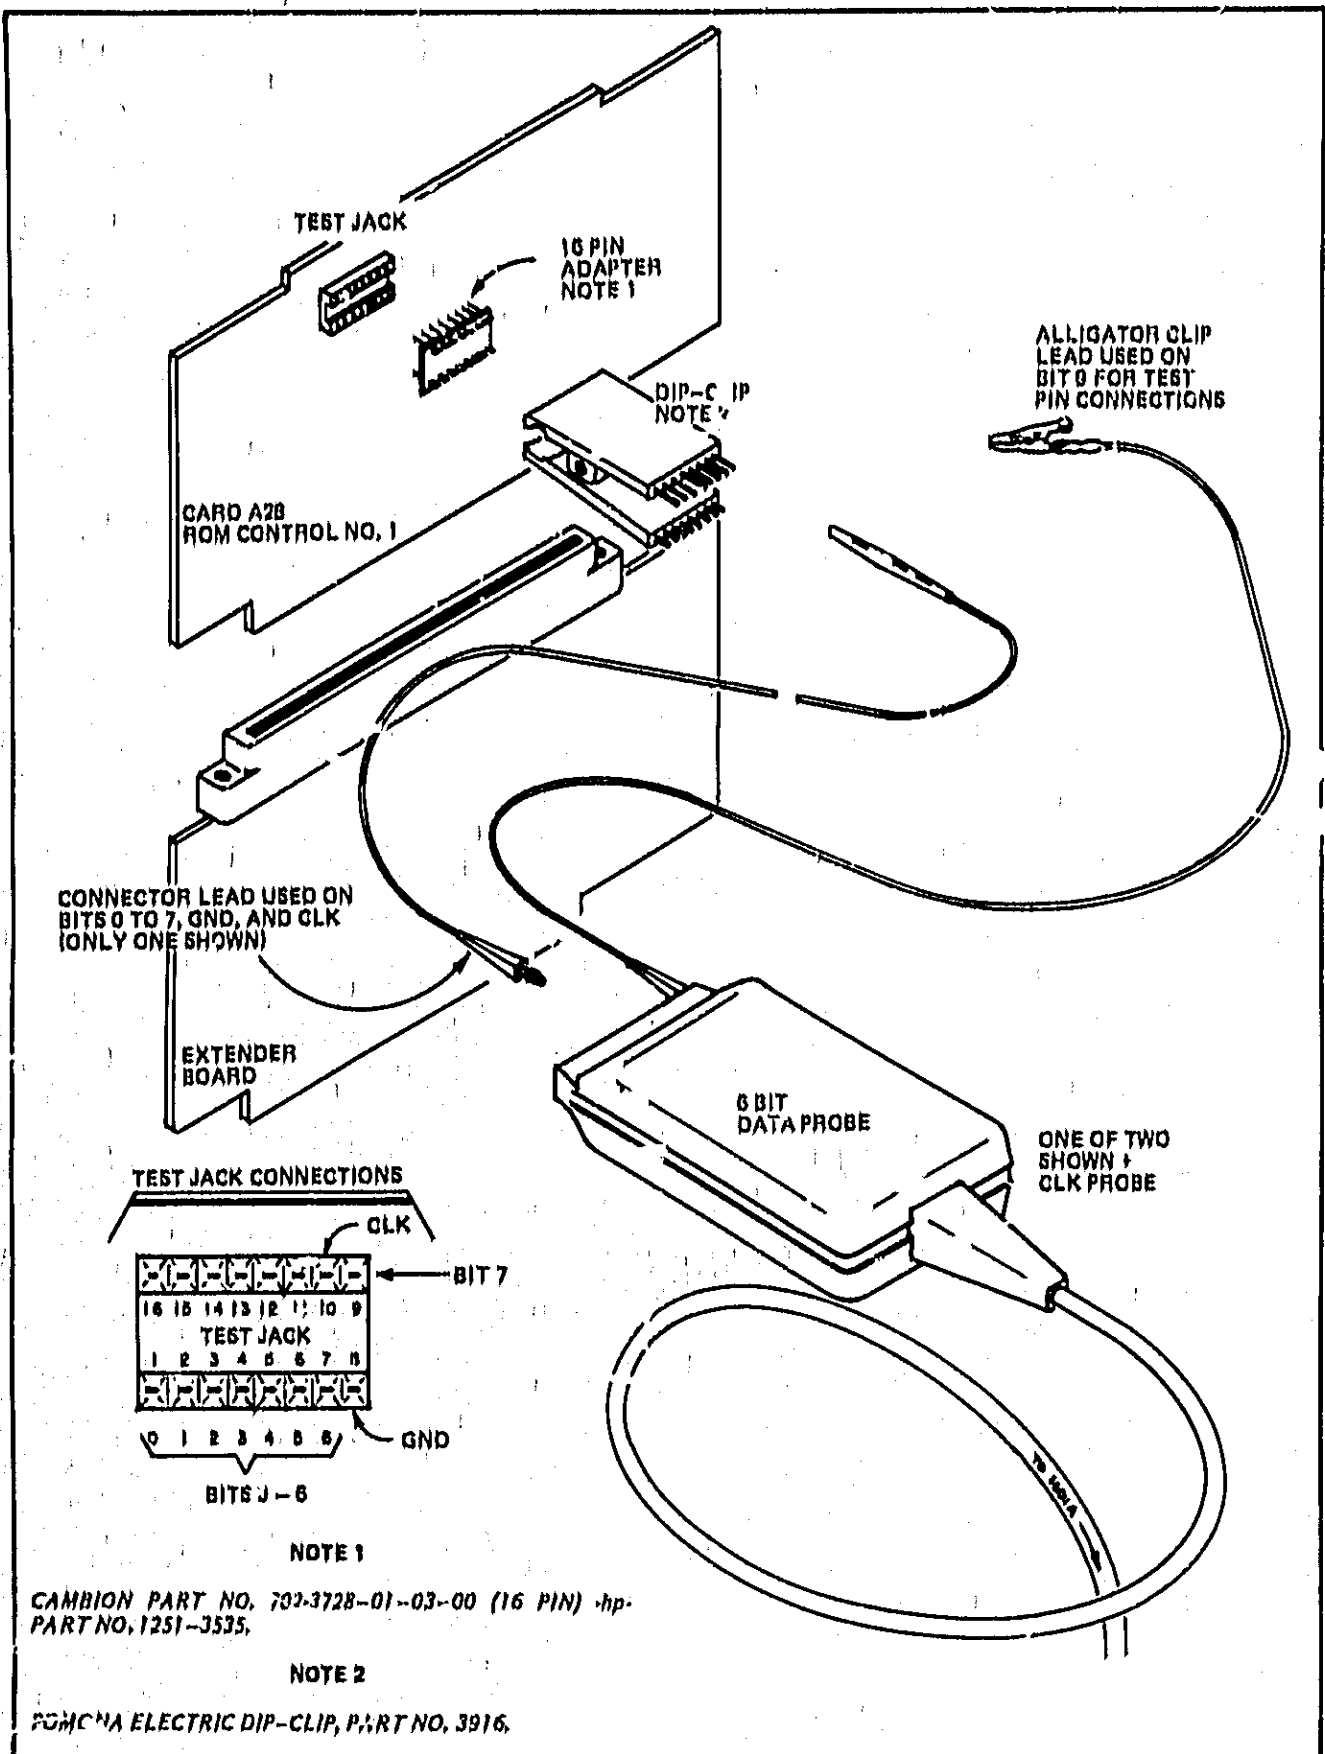

Figure 7-1. Connecting the I601A Logic State Analyzer.
d. Go first to the Preliminary Troubleshooting Tree (Figure 7-1). The preliminary tree will lead to one of several other trees which should lead to the cause of the problem.
7-10. Access to the Present State Bus is provided by a test jack located on PC card A28 (ROM Control No. 1). The test jack contains all of the bus data plus the Control Clock and a system ground. Connection to the test jack can best be accomplished by the use of a sixteen pin adapter (see Figure 7-1). Once the adapter is inserted into the socket, the 1601A can be connected to the adapter via an IC test clip.